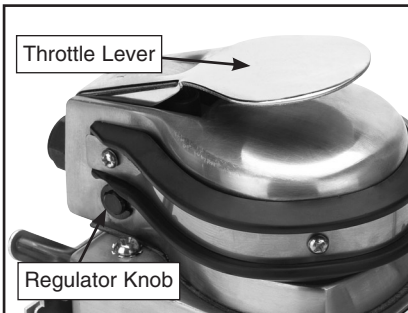

Figure 3. Sander controls.
2. Hold the sander firmly and press the throttle lever (**Figure 3**) to turn it **ON**.
3. Turn the regulator knob (**Figure 3**) to adjust the speed of the air sander.